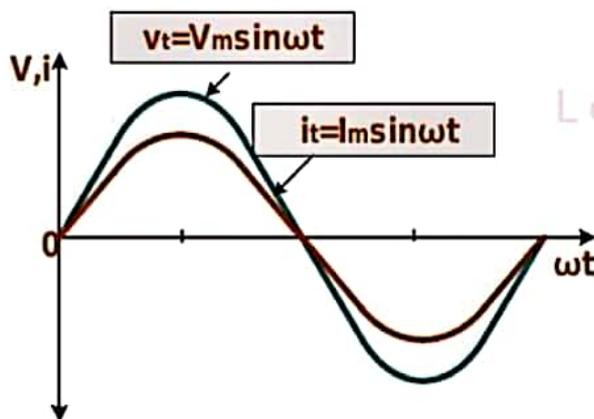

Figure 2.14 Waveform of Voltage & Current for Pure Resistor
- The sinewave and vector representation of $v_t = V_m \sin \omega t$ & $i_t = I_m \sin \omega t$ are given in Fig. 2.14 & 2.15.